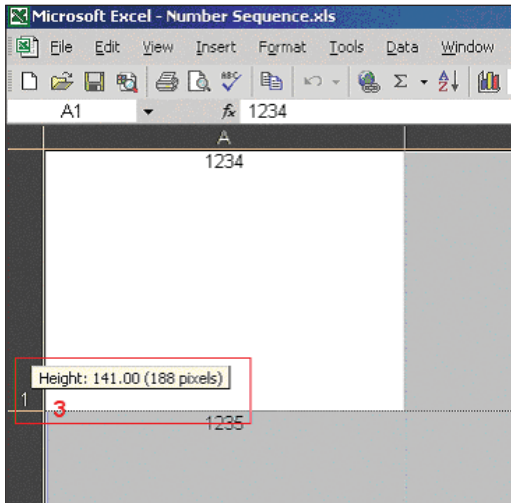

Fig. 4
- Now that you have the correct size matching your label, change the value in the first cell (column A, row 1) and enter any static text you want. Leave it blank for none. In the next cell (column B, row 1) enter the number you would like to increment. See Fig. 4. The next cell (column C, row 1) enter the value you would like to increment by Default is 1.